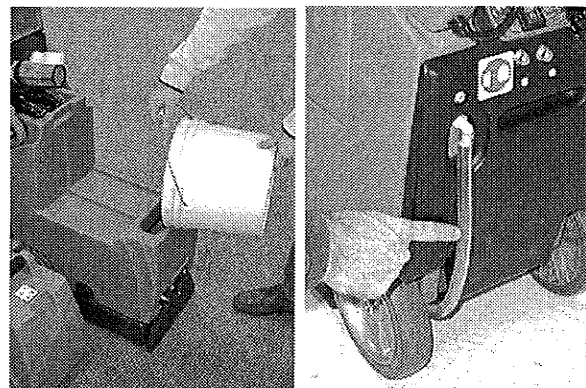

FIG. 3
4. Using a clean bucket or hose, fill solution tank with 15 L (4 gal) of hot water, 60°C (140°F) maximum (Figure 3). Observe solution tank hose at rear of machine when filling. The hose indicates the amount of water in solution tank (Figure 3).